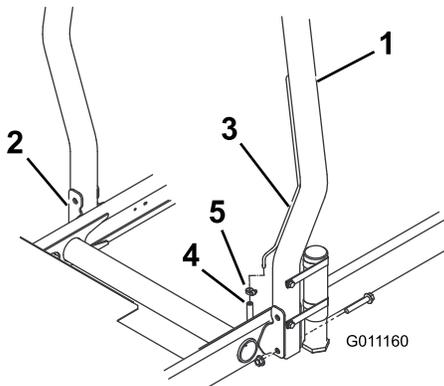

Figure 8
1. Lower the roll bar onto the traction unit mounting brackets, aligning the mounting holes. Ensure that the vent tube on the roll bar is on the left side of the machine (Figure 8).
2. Secure each side of the roll bar to the mounting brackets with 2 flange head bolts and 2 locknuts (Figure 8). Torque the fasteners to 81 N·m (60 ft-lb).